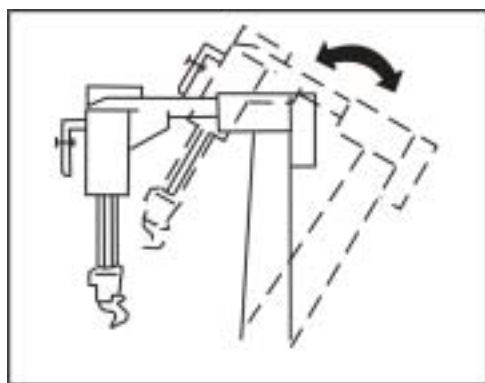

Fig.41
- The tilting cylinder is controlled by pedal "1". When it is pressed, the tilting post tilts backward; and when it is pressed again, the column restore to the upright position (Fig.41).